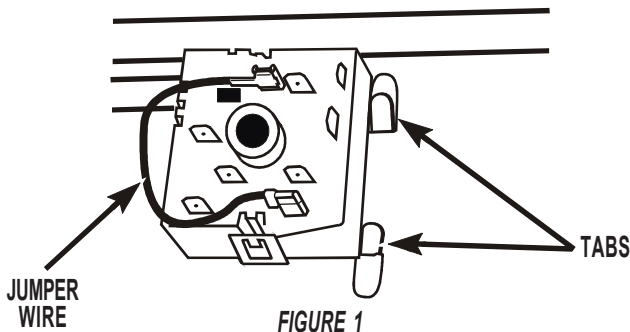

FIGURE 1
If your switch is mounted to the console using a locknut, the console may have two tabs that interfere with switch mounting. Bend the tabs away from the switch until the switch seats flush on the console. Keep tabs snug against switch body to prevent switch from turning. Mount switch to console with locknut. See Figure 1.
4. Use jumper wire included to connect terminals P1 and S1 on the new switch. Use insulated terminal on S1 and connect other end of jumper to P1 terminal toward the center of the switch. See Figure 1.